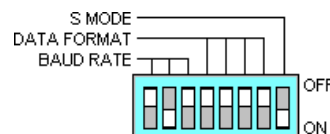

Figure 11.27
1. Power off the NI Instrument Simulator and configure it to communicate through the GPIB by setting the switches (Figure 11.27) on the side of the box.